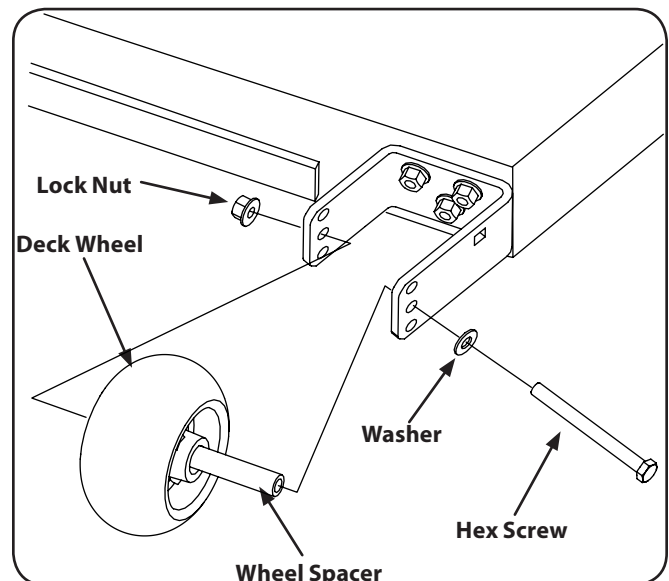

Figure 1-7
- Remove the lock nut securing one of the front gauge wheel shoulder screws to the deck. Remove the gauge wheel and hex screw. Refer to Figure 1-7.